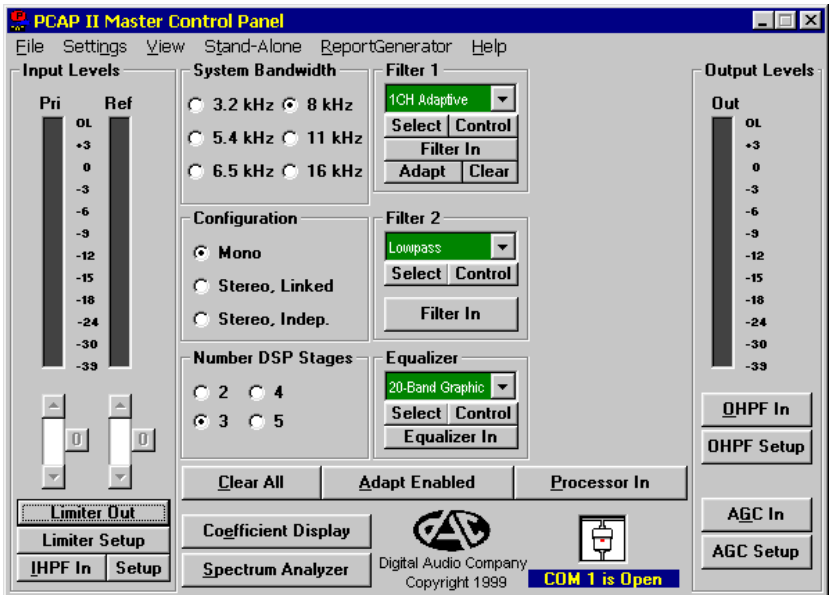

Figure 3-5 Tutorial Master Control Panel
1. With the installation procedure in Section 2.2 completed, run the PCAP II Master Control program by double clicking the PCAP II Master Control icon in Microsoft Windows. A window similar to Figure 3-5 Tutorial Master Control Panel will appear:
2. Use the mouse\* to set the **Input HPF In/Out, Limiter In/Out, Output HPF In/Out, AGC In/Out, System Bandwidth, Configuration, Number DSP Stages, Adapt Enabled/Disabled**, and **Processor In/Out** buttons as they are shown in Figure 3-5. Do not set up the Filter blocks and Equalizer blocks at this time.